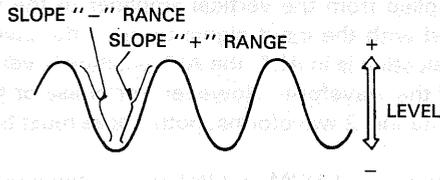

Fig. 7
Trigger point on waveform is adjusted by the LEVEL/PULL SLOPE (18) control. Fig. 7 shows the relationship between the SLOPE and LEVEL of the trigger point. Triggering level can be adjusted as necessary.